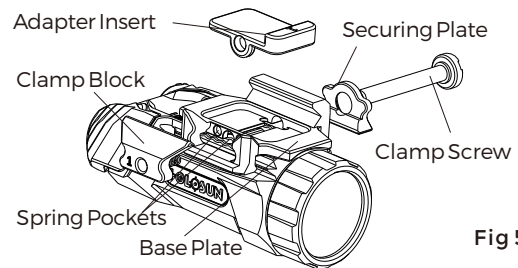

Fig 5
The P.ID-K is also equipped with a mount for slimline sub-compact pistols such as G43X MOS or G48 MOS. For disassembly and installation steps, please consult Figure 5.
2) Disassemble the mount to be installed according to Figure 5.